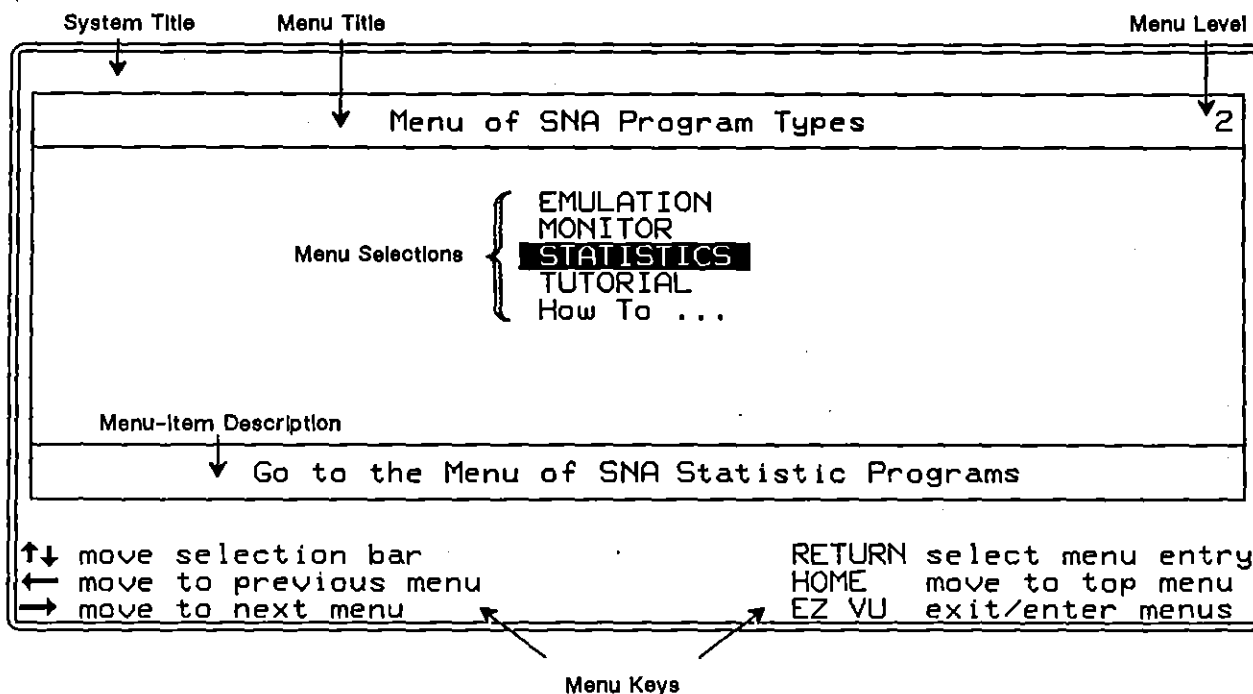

Figure 4-4 A second-level Easy View menu screen.
Easy View menu screens have the format shown in Figure 4-4.
1. *System title.* The top line of each menu screen contains a system title. This title is centered on the screen. In Figure 4-4, it is blank. See Section 19.5 for information on defining a system title.
4. *Menu selections.* The center box on the screen displays the menu selections. A reverse-video cursor bar highlights the selected menu item. In Figure 4-4, STATISTICS is selected for SNA protocol.